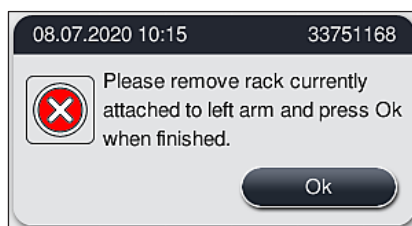

Fig. 129
5. Confirm by pressing **Ok** (→ "Fig. 129").